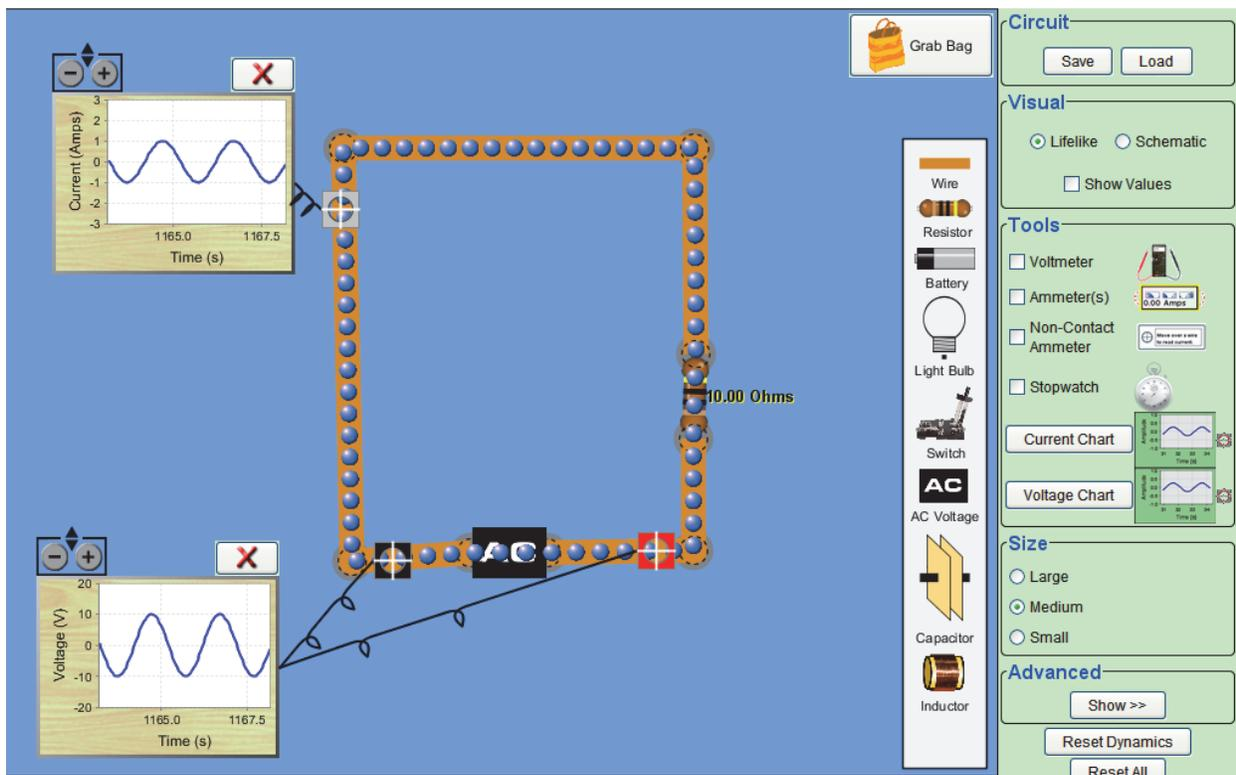

Figure 8
9. Next select the Current Chart and the Voltage Chart and place the measuring leads from each device in the circuit as shown in figure 8.